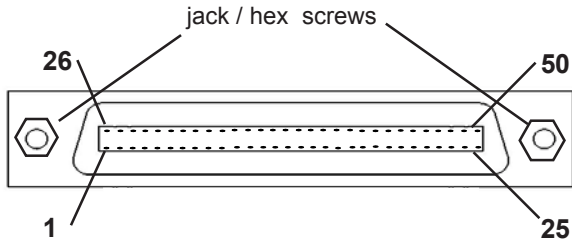
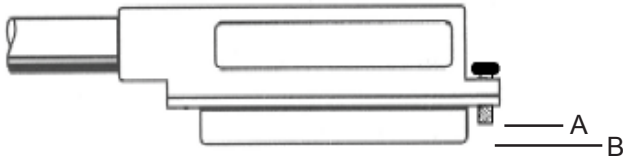

Figure 1: Rear panel female connector
Figure 2: Male cable connector
The #4-40 screw(s) supplied with the cable connectors may be too long to connect to the jack-hex screws on the shelf as shown in **Figure 1**. Extend the screw fully. If it is flush with, or goes past the connector's body as shown in **Figure 2** point (B) the screw is too long. Replace the screw so when fully extended the end of the screw is about 1/16 inch (1.5mm) from the bottom of the connector's body as shown in **Figure 2** point (A).